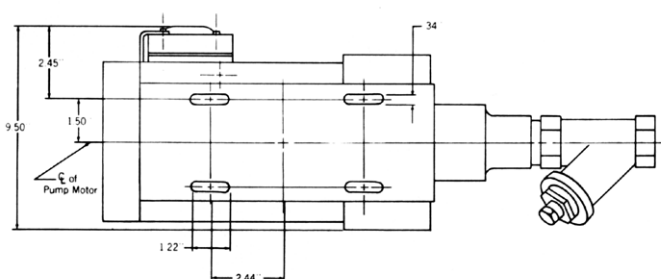

Figure 3
Mount the unit for easy accessibility to the vehicles to be serviced. It may be mounted in either a horizontal or vertical position. A mounting bracket is provided for rigid mounting of the pump (reference Figure 3 for detail dimensions). The pump motor operates on 80-150 psi air at 5 CFM minimum. The unit is to be mounted so that the cycle gauge is in full view of the operator and the override button and strainer cleanout are readily accessible.
- see Fig. 3, page 3.